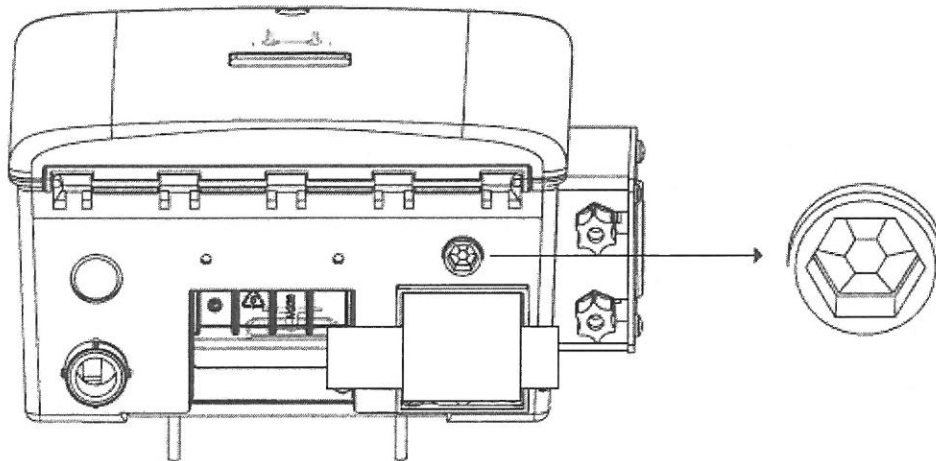

Figure 3.9
1. Locate hexagon feature on the bottom of the I/O enclosure, located in front of the detergent valve (Figure 3.9).